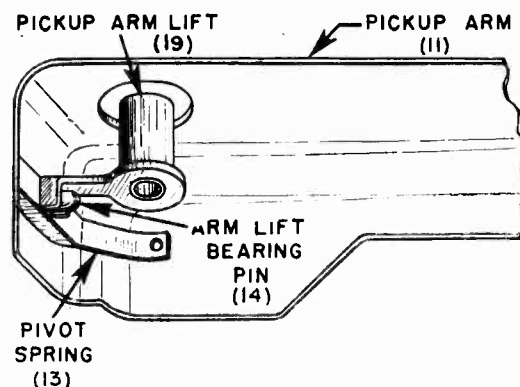

FIGURE 4.
- (b) Lift the pickup arm and check to see that the pickup arm lift (19) is positioned properly over the arm lift bearing pin (14). (See Fig. 4.)
- (d) Loosen set screw in lift adjusting collar (10).
- (e) Remove slack by pushing up on push-off cam and shaft assembly (42). Do not compress the arm lift shaft spring (42C).
- (f) Using a #6-32 Bristol wrench, place it in the set screw and slide the lift adjusting collar (10) down until it is snug against the pickup arm lift (19).